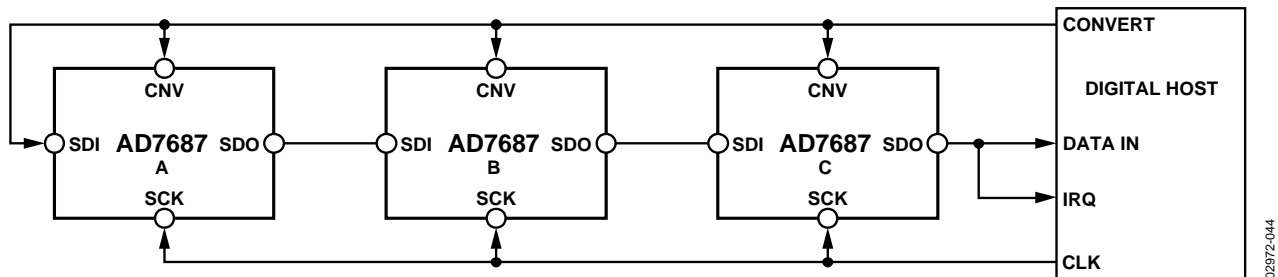
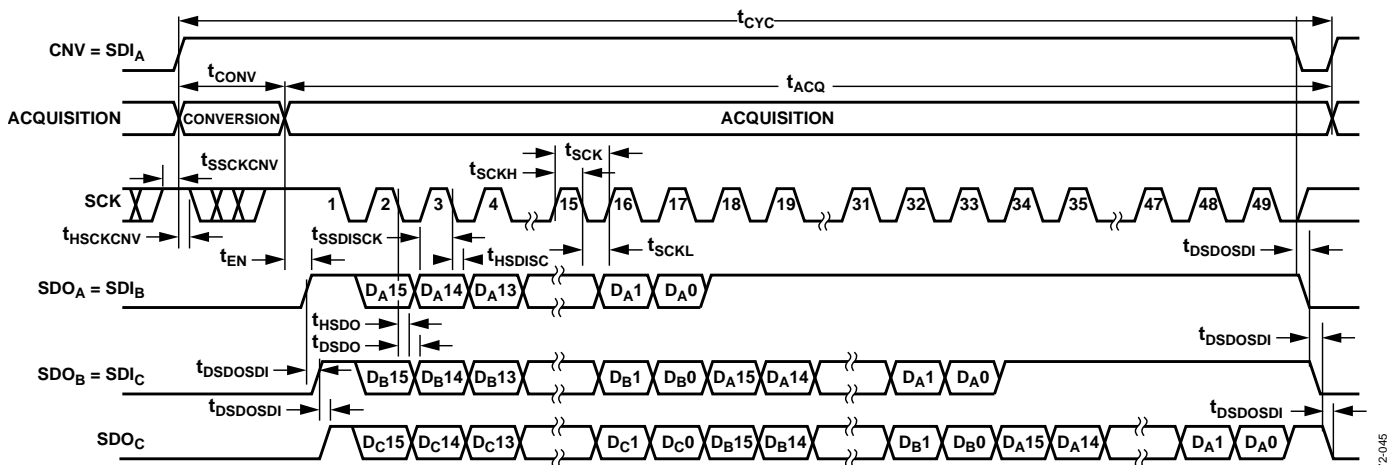

Figure 45. Chain Mode with BUSY Indicator Connection Diagram
Figure 46. Chain Mode with BUSY Indicator Serial Interface Timing
- In the chain mode, if SCK is high during the CNV rising edge (Figure 46).
A connection diagram example using three AD7687s is shown in Figure 45 and the corresponding timing is given in Figure 46.
Figure 45) SDO is driven high. This transition on SDO can be used as a BUSY indicator to trigger the data readback controlled by the digital host. The AD7687 then enters the acquisition phase and powers down. The data bits stored in the internal shift register are then clocked out, MSB first, by subsequent SCK falling edges. For each ADC, SDI feeds the input of the internal shift register and is clocked by the SCK falling edge. Each ADC in the chain outputs its data MSB first, and  $16 \times N + 1$  clocks are required to readback the N ADCs. Although the rising edge can be used to capture the data, a digital host using the SCK falling edge allows a faster reading rate and consequently more AD7687s in the chain, provided the digital host has an acceptable hold time. For instance, with a 3 ns digital host setup time and 3 V interface, up to eight AD7687s running at a conversion rate of 220 kSPS can be daisy-chained to a single 3-wire port.